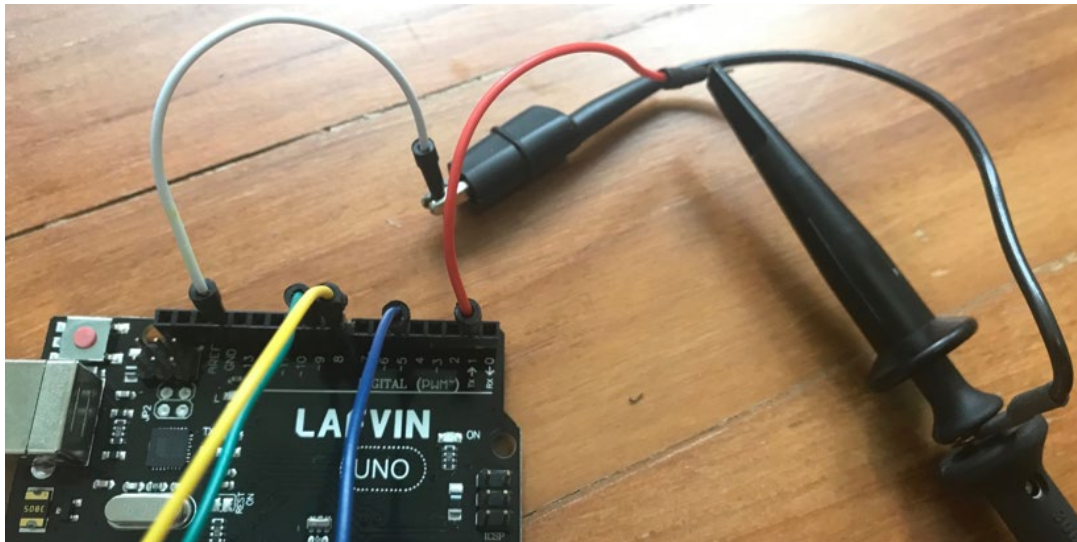

Fig. 13: Connecting Oscilloscope probe to Arduino to monitor UART TX
#Task: Reuse the setup in section 6.3. Probe the UART TX pin of the processor. This is also pin 1 of the processor. You can access the processor pin 1 at the headers (See Fig 1). Fig 13 below shows the connection to Oscilloscope.
- Ensure that connection shown in Fig. 13 is done.